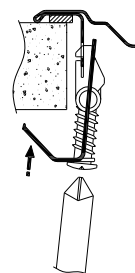

Fig 5.
13. Fix the sink to the worktop by tightening the screws on the fixing clips clockwise (fig. 5) using a crosshead screwdriver, the sink frame will pull down tight and flat to the top surface to the worktop.